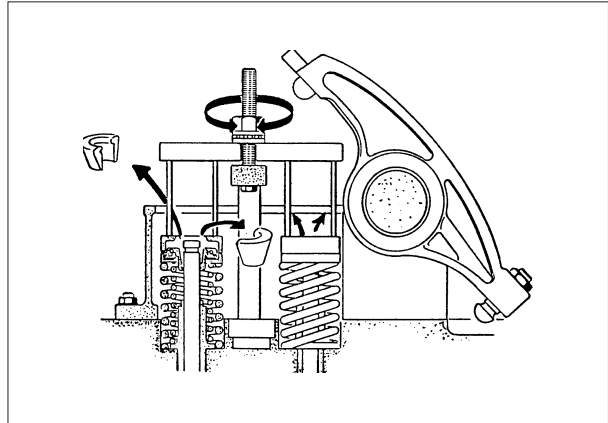

Fig 2.
4) Mount the tool for mounting of valves, see fig 2.
6) Remove the cone rings, see fig 2.